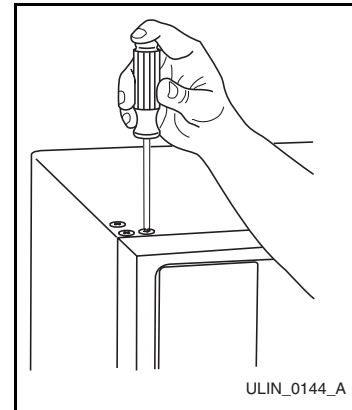

Figure 44
- Remove three plastic screw plugs (**Figure 44**) in hinge holes, top of cabinet, opposite side. Be careful not to scratch cabinet.